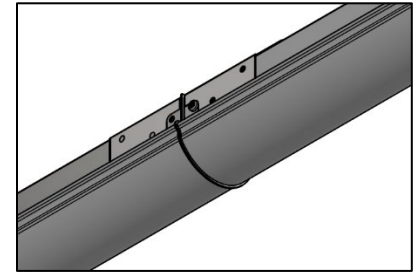

Figure 11
6. Reattach the lens if was previously removed. Finished fixture is shown in Figure 11.